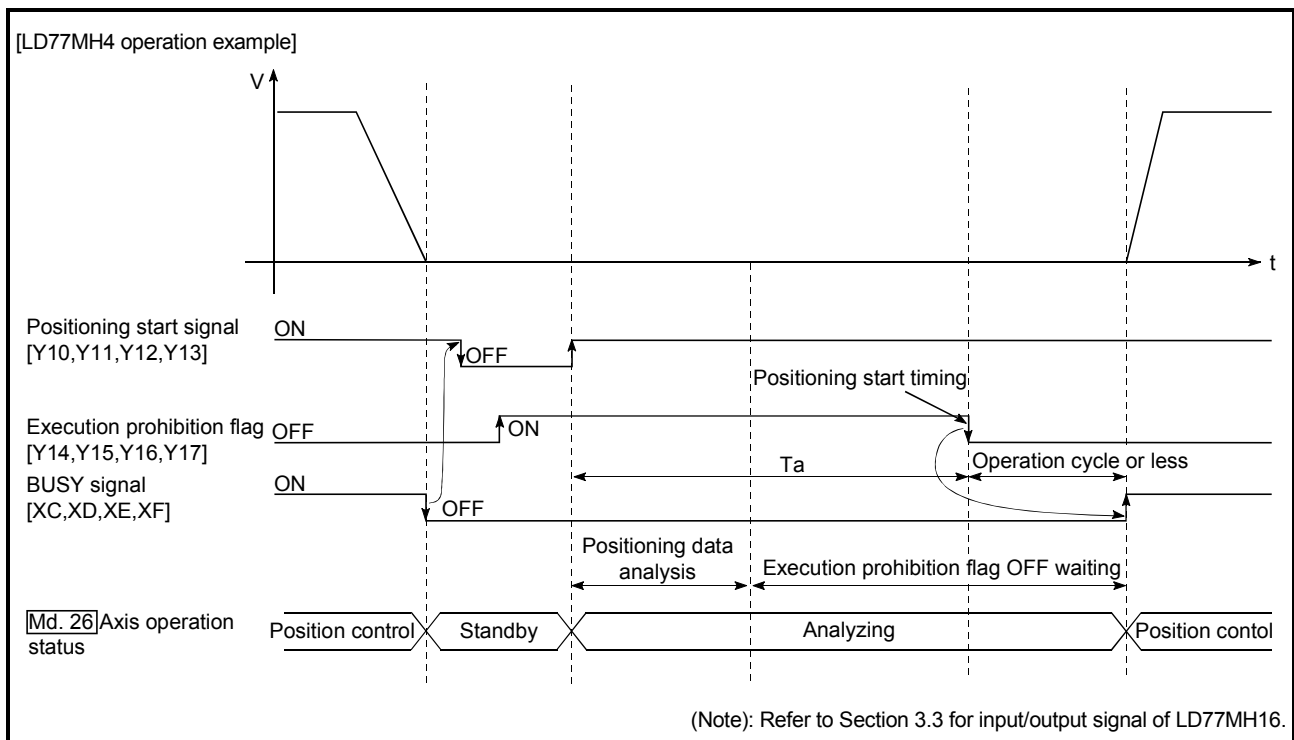

Fig. 13.48 Operations of pre-reading start function
The pre-reading start function is performed by turning ON the positioning start signal with the execution prohibition flag ON, or by executing the dedicated instruction (ZP.PSTRT1, ZP.PSTRT2, ZP.PSTRT3, ZP.PSTRT4). However, if positioning is started with the execution prohibition flag ON, the positioning data is analyzed but servo start is not provided. While the execution prohibition flag is ON, "Md.26 Axis operation status" remains unchanged from "5: Analyzing". The servo starts within operation cycle after the execution prohibition flag has turned OFF, and "Md.26 Axis operation status" changes to the status (e.g. position control, speed control) that matches the control system. (Refer to Fig.13.48)
- (1) The time required to analyze the positioning data is up to 0.88ms (LD77MH4)/ 3.55ms(LD77MH16).
- (2) After positioning data analysis, the system is put in an execution prohibition flag OFF waiting status. Any change made to the positioning data in the execution prohibition flag OFF waiting status is not reflected on the positioning data. Change the positioning data before turning ON the positioning start signal.
- (3) The pre-reading start function is invalid if the execution prohibition flag is turned OFF between when the positioning start signal has turned ON and when positioning data analysis is completed ( $T_a < \text{start time}$ ,  $T_a$ : Refer to Fig. 13.48).
- (4) The data No. which can be executed positioning start using "[Cd.3]Positioning start No." with the pre-reading start function are No. 1 to 600 only. Performing the pre-reading start function at the setting of No. 7000 to 7004 or 9001 to 9004 will result in an outside start No. range error (Error code: 543).
- (5) Always turn ON the execution prohibition flag at the same time or before turning ON the positioning start signal. Pre-reading may not be started if the execution prohibition flag is turned ON during  $T_a$  after the positioning start signal is turned ON. The pre-reading start function is invalid if the execution prohibition flag is turned ON after positioning start with the execution prohibition flag OFF. (It is made valid at the next positioning start.)